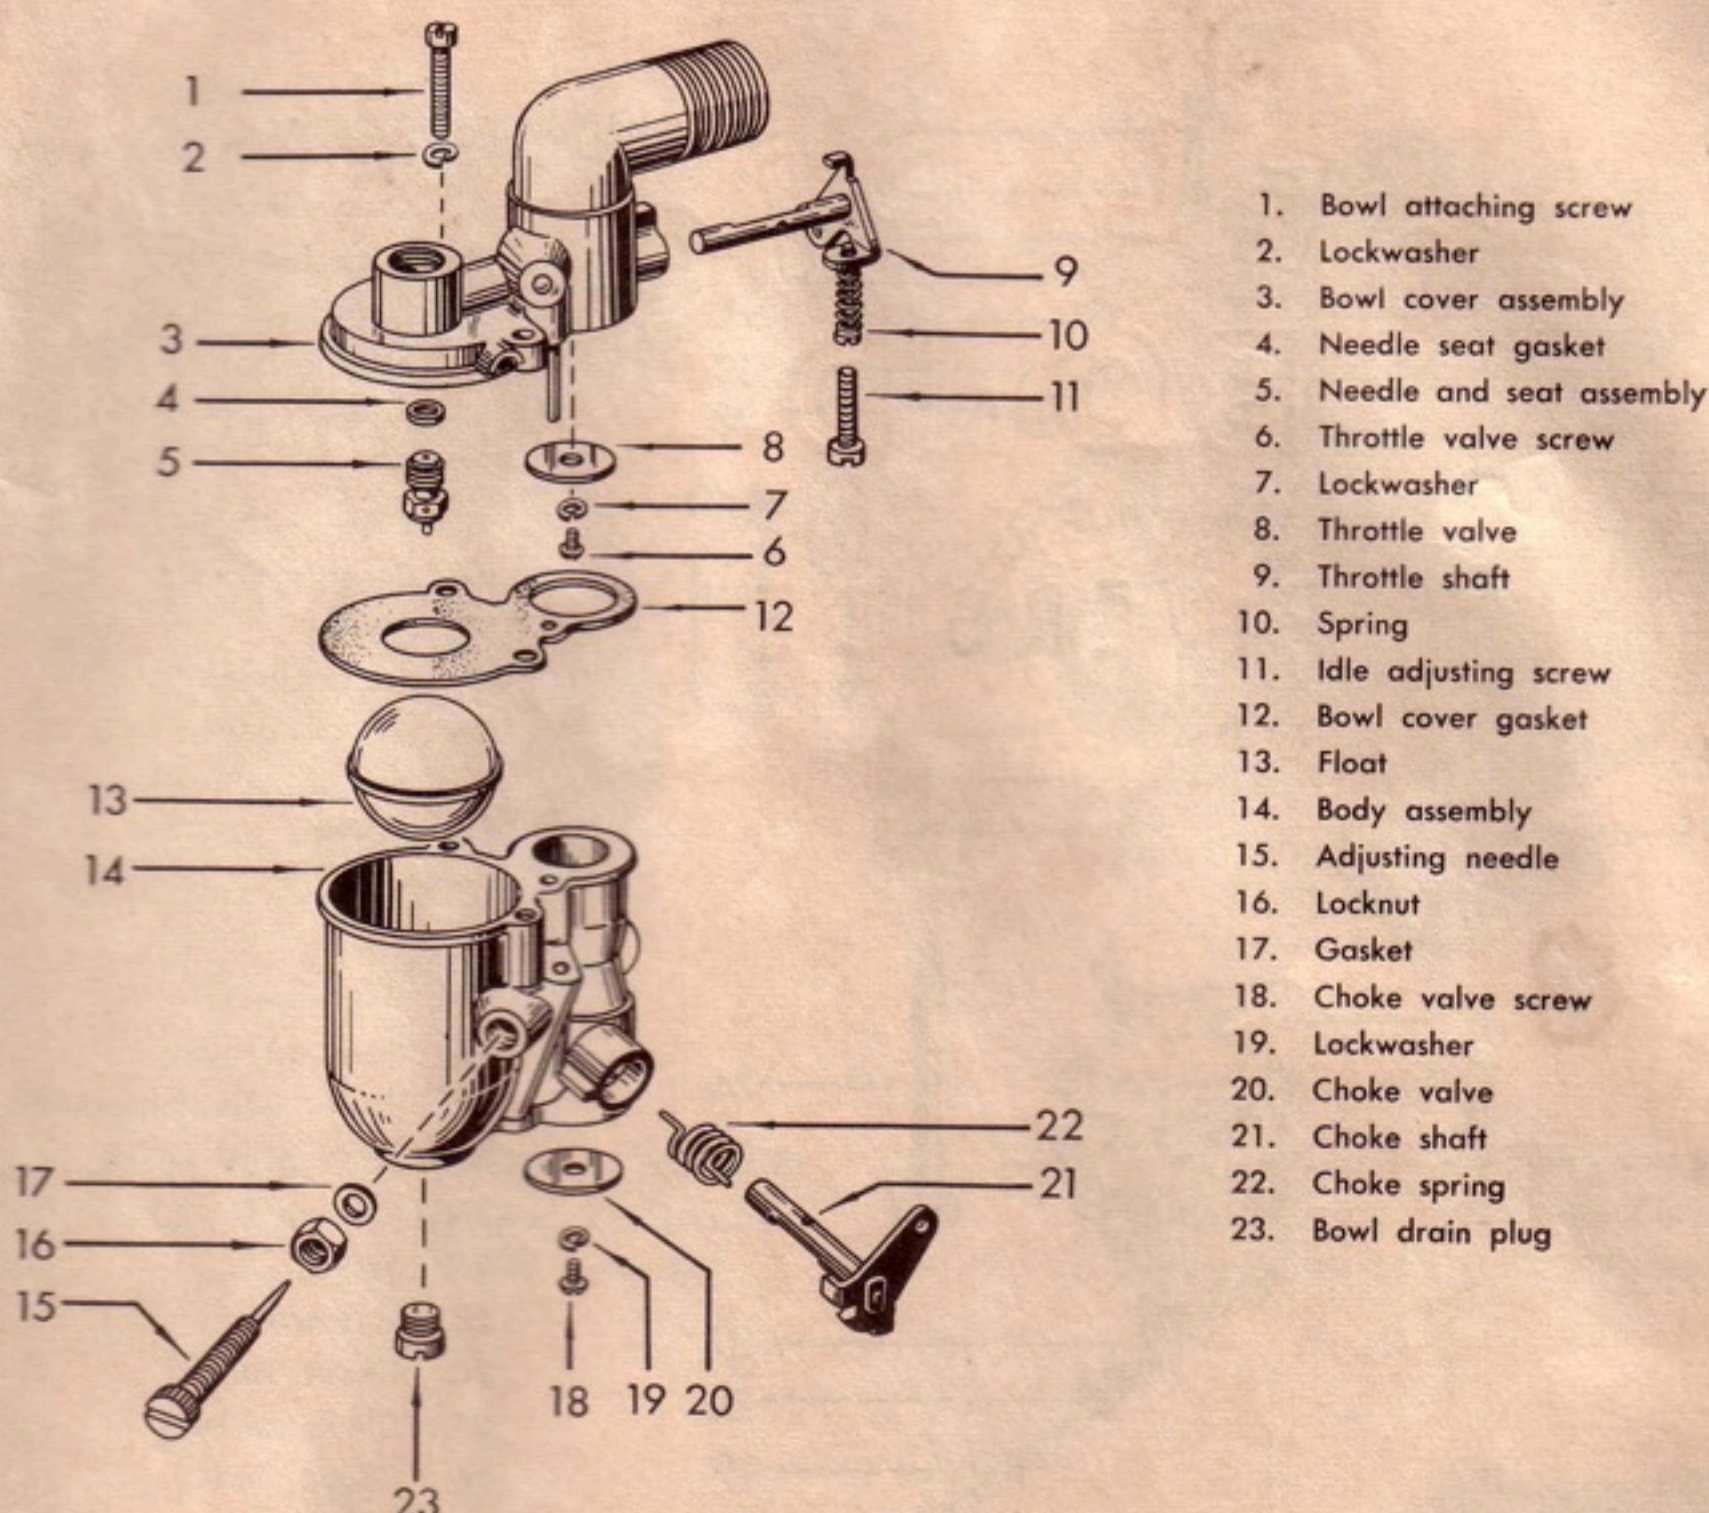

Figure D-1. Zenith, Model 10390 Carburetor
1. **DISASSEMBLY.** (See figure D-1.)
b. Remove the bowl cover assembly (3) by taking out the attaching screws (1) and lockwashers (2).
c. Remove the needle and seat assembly (5). Be sure to use an accurate fitting wrench on this part.
d. Inspect the throttle bore in the bowl cover assembly (3), and if rather dirty remove the screw (6), lockwasher (7), and throttle valve (8). Withdraw the throttle shaft (9).
e. Remove the gasket (12) and float (13).
f. Loosen the locknut (16) and remove the adjusting needle (15).
g. If the choke valve (20), choke shaft (21) and choke spring (22) are in good condition they need not be removed.
h. Remove the drain plug (23).
2. **CLEANING AND INSPECTION.** (See figure D-1.)
a. Inspect all parts for wear and damage and replace defective parts. Pay particular attention to the float (13), needle and seat assembly (5), and adjusting needle (15). If the adjusting needle has a groove in the taper where it contacts the seat in the body, replace it.
3. **REASSEMBLY** (See figure D-1.)
a. If the choke assembly was removed, install the parts in the body (14). Be sure the choke spring (22) is engaged so that it holds the choke open.
b. Install the drain plug (23).
c. Place the locknut (16) on the adjusting needle (15) and install the needle in the body (14) with a new gasket (17). Run the needle in until it touches the seat (do not force), then back it out approximately one and one-half turns.
d. Install the needle and seat assembly (5) in the bowl cover assembly (3), using a new gasket (4).
e. Install the throttle shaft (9) and throttle valve (8) with the lockwasher (7) and screw (6). Hold the throttle valve centered while tightening the screw (6), then operate the throttle to see that no binding occurs.
f. Drop the float (13) in the body (14).
g. Place the gasket (12) over the bowl and attach the bowl cover assembly (3) to the body assembly (14) with screws (1) and lockwashers (2). Tighten screws firmly.
h. Tighten the locknut (16) temporarily to prevent leakage.
4. **ADJUSTING.** (See figure D-1.) This carburetor has only two adjustments: the idle adjusting screw (11) and the mixture adjusting needle (15). Set the screw (11) so the engine will not run slower than 1000 rpm and rotate the needle (15) until the engine operates smoothly and accelerates without hesitation. After adjusting the mixture, reset the screw (11) to idle the engine between 1000 and 1400 rpm.